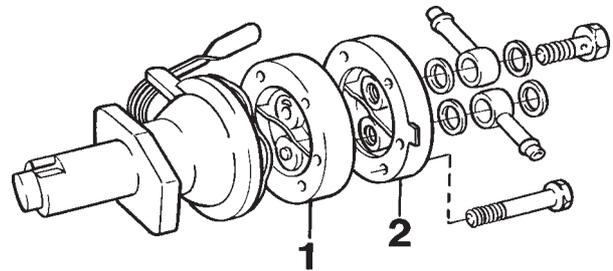

Fig. 96. Feed pump
3. Check the function of the valve housing (1. Fig. 96) before stripping as follows: